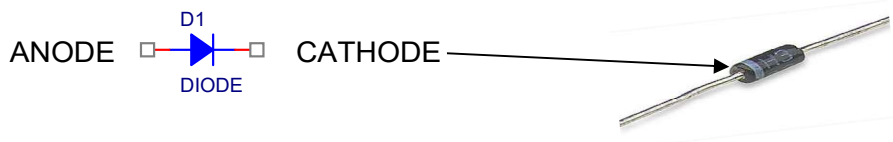

Fig. 1
A diode is a nonlinear circuit element. The symbol of a diode and a real commercial diode is shown in Fig. 1. Generally there is a band marked at its cathode for its identification. There exists another type of diode known as zener diode, which has a heavily doped PN junction.
1. Assemble the circuit on your breadboard as shown in Fig 1(a). Connect to the 0-30V dc power supply.
1. Assemble the circuit on your breadboard as shown in Fig 1(b). Connect to the 0-30V dc power supply.
1. Assemble the circuit on your breadboard as shown in Fig 1(a). Use a zener diode this time in your circuit and repeat steps 2-4 of forward bias characteristics of normal diode.
1. Assemble the circuit on your breadboard with the zener diode, as shown in Fig 1(b). Keep in mind that initially the magnitude of current flowing in the circuit will be very small.